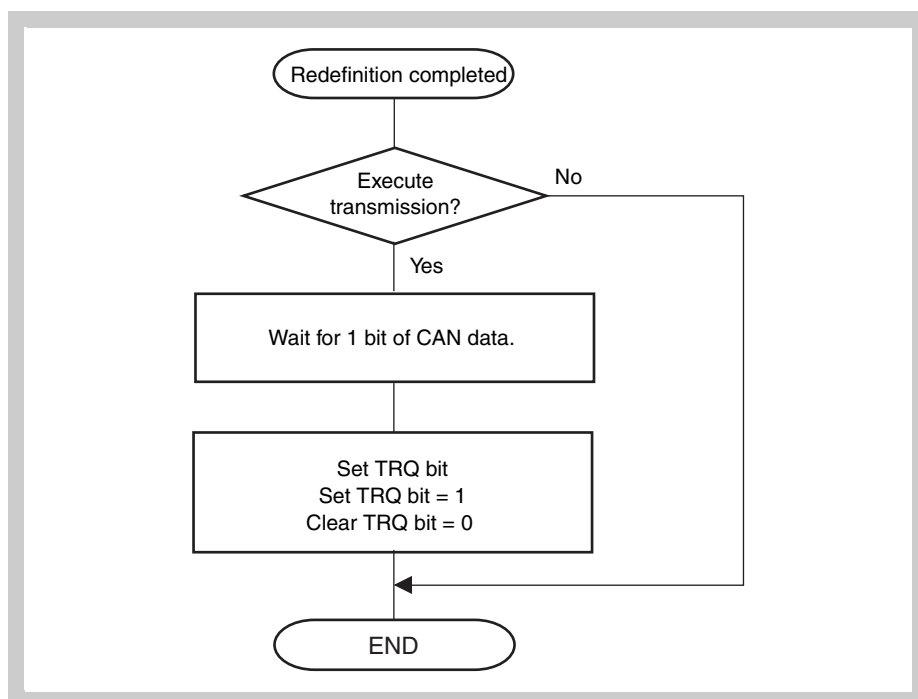

Figure 20-26 Setting transmission request (TRQ) to transmit message buffer after redefinition
2. When a message is transmitted, the transmission priority is checked in accordance with the ID, IDE, and RTR bits set to each transmit message buffer to which a transmission request was set. The transmit message buffer having the highest priority is selected for transmission. If the procedure in *Figure 20-26 on page 754* is not observed, a message with an ID not having the highest priority may be transmitted after redefinition.